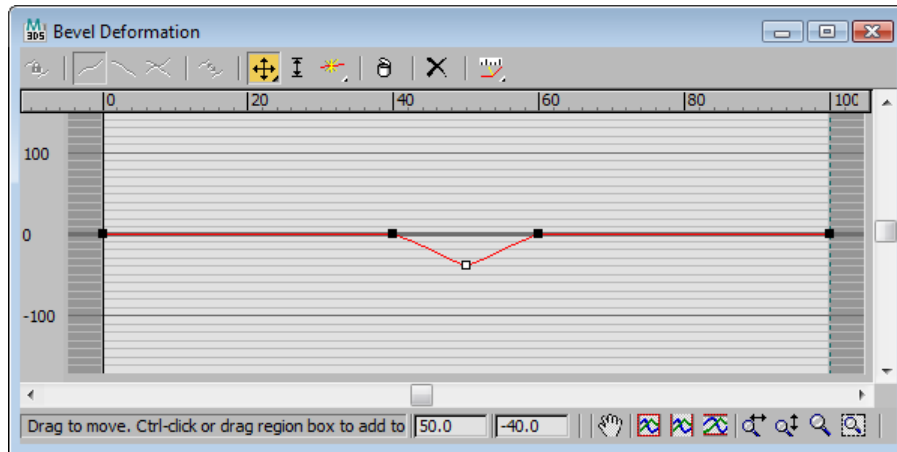

Figure 9-8A The three vertices are added in the *Bevel Deformation* dialog box and the middle vertex is moved.
4. Pick the **Move Control Point** button and at the point move the vertex at point 50 down by 4 lines so that -40 is displayed in the right-hand text box, **Figure 9-8A**.